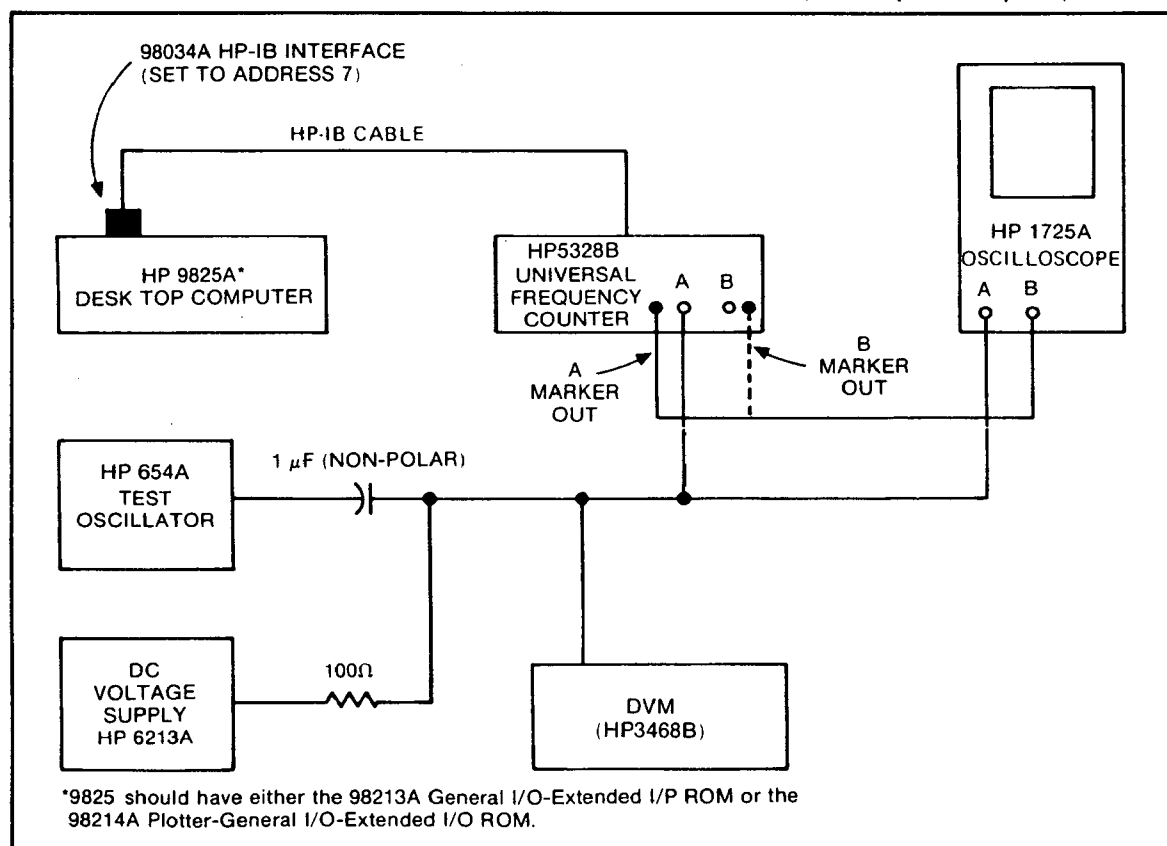
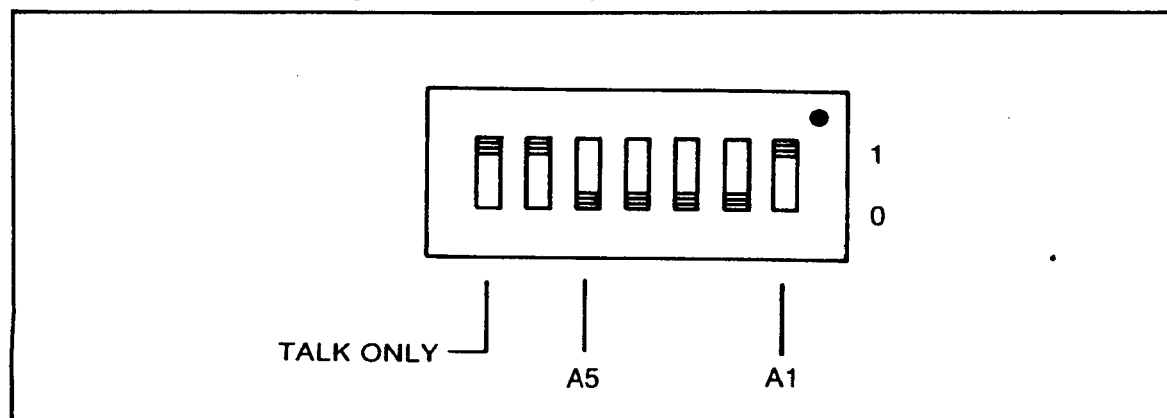

Figure 5-6. Test Setup for DAC Adjustment
Figure 5-7. Address Switches
Set up the equipment as shown in Figure 5-6. Set the rear panel address switches on the HP5328B as shown in Figure 5-7.
- c. Connect the power supply as in Figure 5-6 and adjust for a dc level of 2.50 volts (± 2 mV) as read on the DVM.